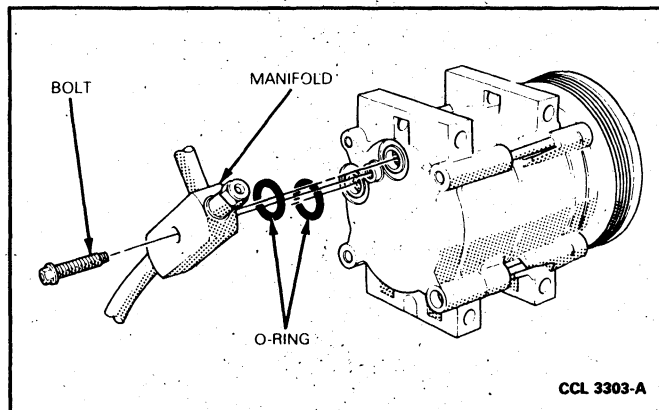

FIG. 3 Manifold Exploded From Compressor
1. Discharge the refrigerant from the system following the recommended procedures. Remove bolt attaching manifold and hose/tube assembly to the rear head of the compressor (Fig. 3).
1. Lubricate new O-rings with clean refrigerant oil and position them in the O-ring grooves of the compressor rear head (Fig. 3).